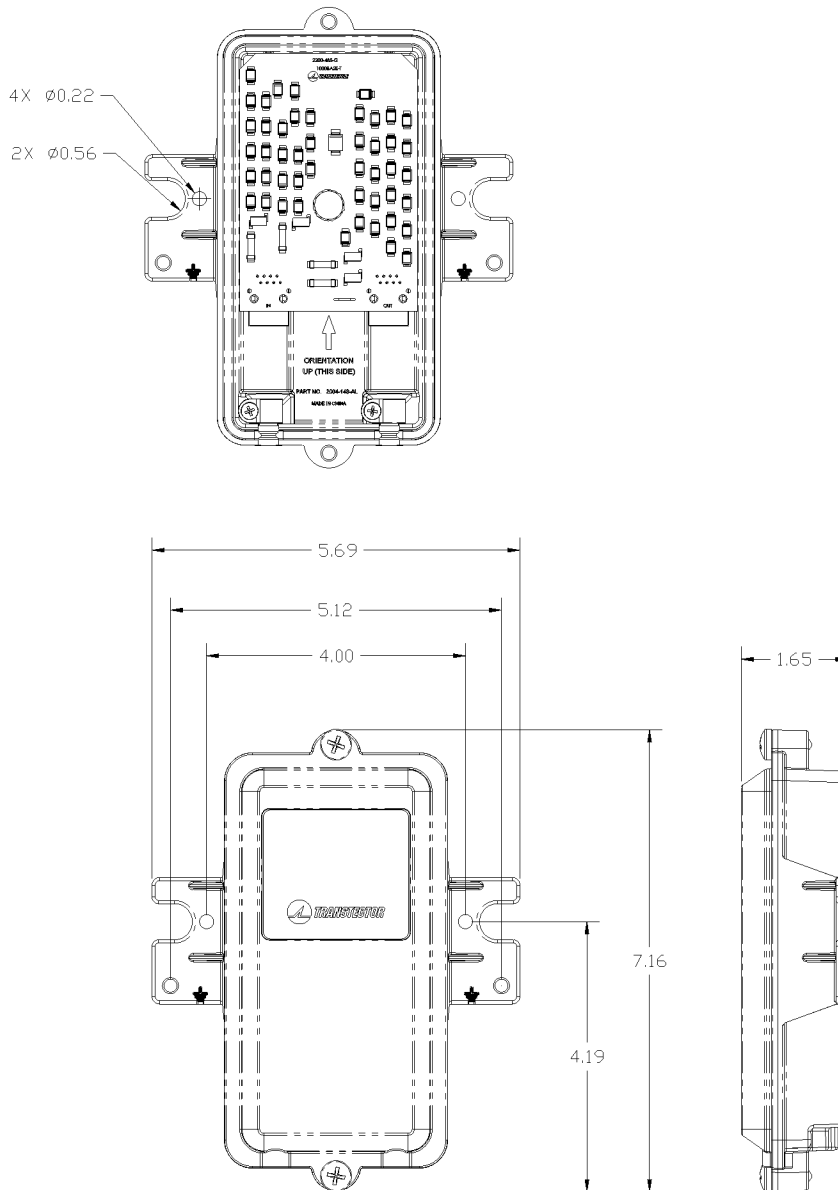

FIGURE 1. Mechanical Outline of Metal Enclosure (drawing in inches)
4.2. Product Dimensions	As Shown in Figure 1
6. INSTALLATION: The ALPU PTP-M is intended to be installed indoors or outdoors, on wall or pole mount applications. The unit features mounting feet on the sides that mount onto 4" center-to-center holes with #10 sized hardware. The mount foot also adapts to 4" diameter pole mounting kits with a 4.5" center-to-center holes and larger hardware. Refer to Figure 1 for mechanical requirements and connector locations. The optimum ground connection on the metal enclosure unit at the mounting flange on either side is shown in Figure 1. Use minimum 8 AWG wire for a ground reference attachment. Communications cables with the RJ45 connectors already installed can feed directly into the enclosure. Be sure to install the cables with the un-protected cable installed into the left "IN" jack and the protected equipment cable in the right "OUT" jack. The enclosure features a built in cable retention that grips the cables with a screw down bracket. A pole mount adapter kit (PN 1000-1164) is available to meet installations on a wide range of pole diameters from 2" metal fence poles to 10" diameter utility poles.